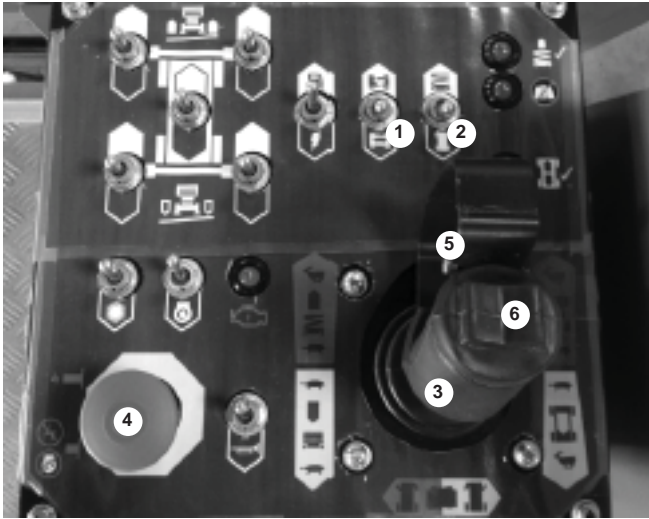

Figure 8.9
2. Set the speed switch (1) to turtle (slow) (see figure 8.9) if you are going to be driving close to other objects or need to move the S2255RT / S2755RT very slowly for other reasons.
3. Set the lift / drive switch (2) to drive (see figure 8.9).
To make a normal stop, slowly move the joystick controller (3) (see figure 8.9).
4. Squeeze and hold the safety control (5) against the joystick controller (3) (see figure 8.9).
5. Push the joystick controller (3) slowly forward or pull it slowly backward, depending on which way you want to go. The further you move the joystick the faster the machine goes.
6. To make a right or left turn, press and hold the steering rocker switch (6) on top of the joystick controller (3) (see figure 8.9).